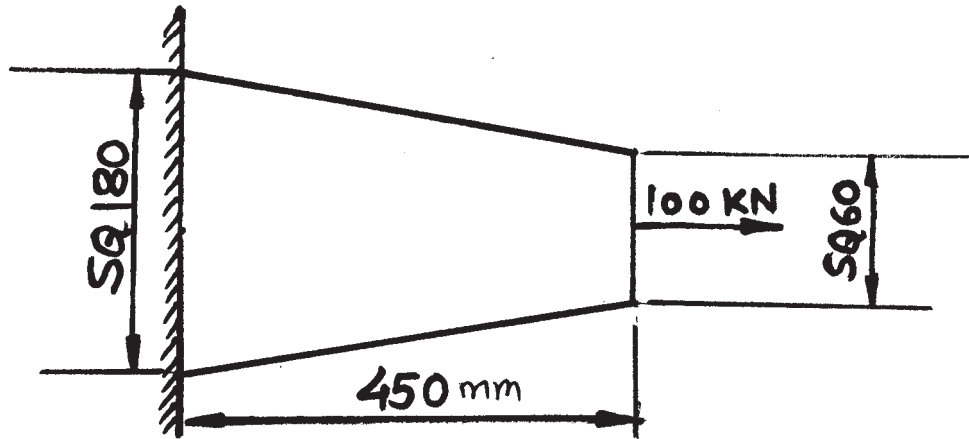

Figure 3, Q 6(b)
- Q6)** Two cantilevers are united together by means of pin at B as shown in figure 3. For the loads acting, find fixing moments at A & C. Use stiffness matrix method. EI is uniform. [18]
b) A tapered bar is shown in figure 3. Model the bar by considering it as made up of 3 elements of equal length and hence find out the deflection of free end and reaction at support using elimination approach. Also find the stress at the midpoint. Assume $E = 2 \times 10^5 \text{ N/mm}^2$. [12]